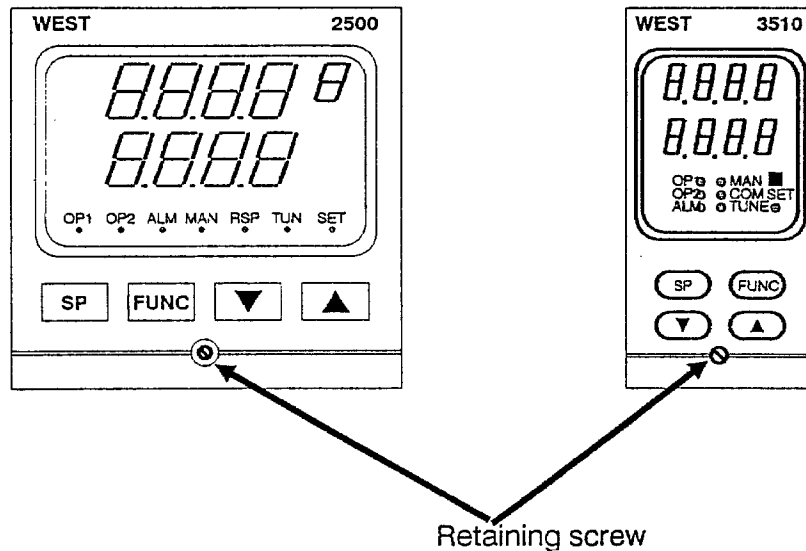

Figure 2-4 Location of Retaining Screw
1. With a flat-bladed screwdriver of appropriate size (1/4-inch), rotate the retaining screw at the base of the Controller front panel (see Figure 2-4) anticlockwise. This will cause the Controller to be partially withdrawn from its housing and will dis-engage the connector at the rear of the Controller.